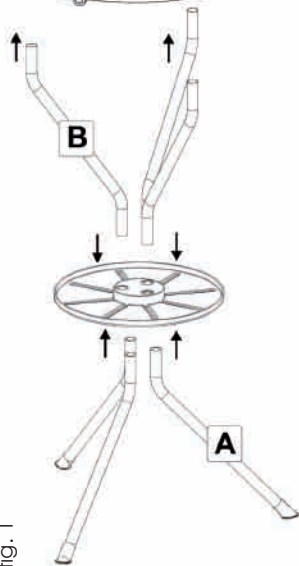

fig. 1
- put the body together **(3)**. Press the legs **(B)** into the holes in the lower part of the body (fig. 1)